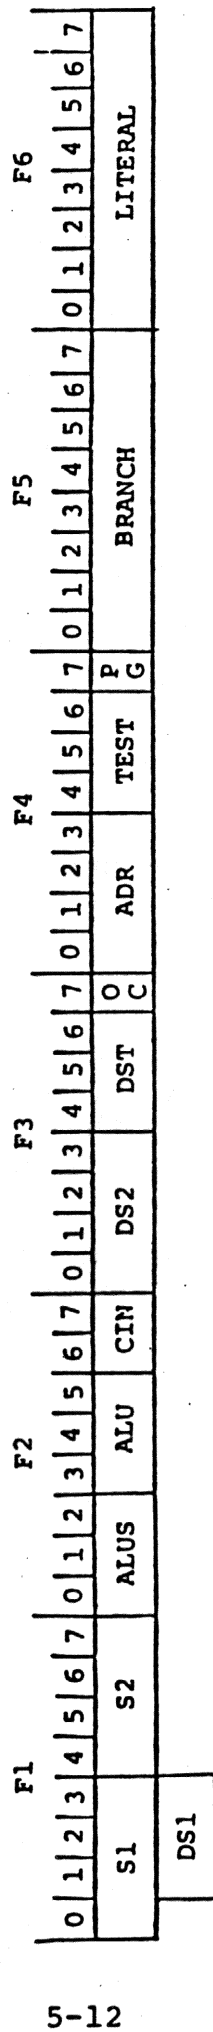

FIGURE 5-8 Microinstruction Word
The control memory stores the firmware that controls the operation of the controller. It comprises six 512 x 8 bit programmable read-only-memories (PROMs) identified as B12, B14, B15, B16, B17, and B18 on sheet 11. The PROMs have a pipeline register at the output identified as the Control Register (CR). The six PROMs produce a 48-bit instruction word divided into six 8-bit fields. Figure 5-8 depicts the instruction word.